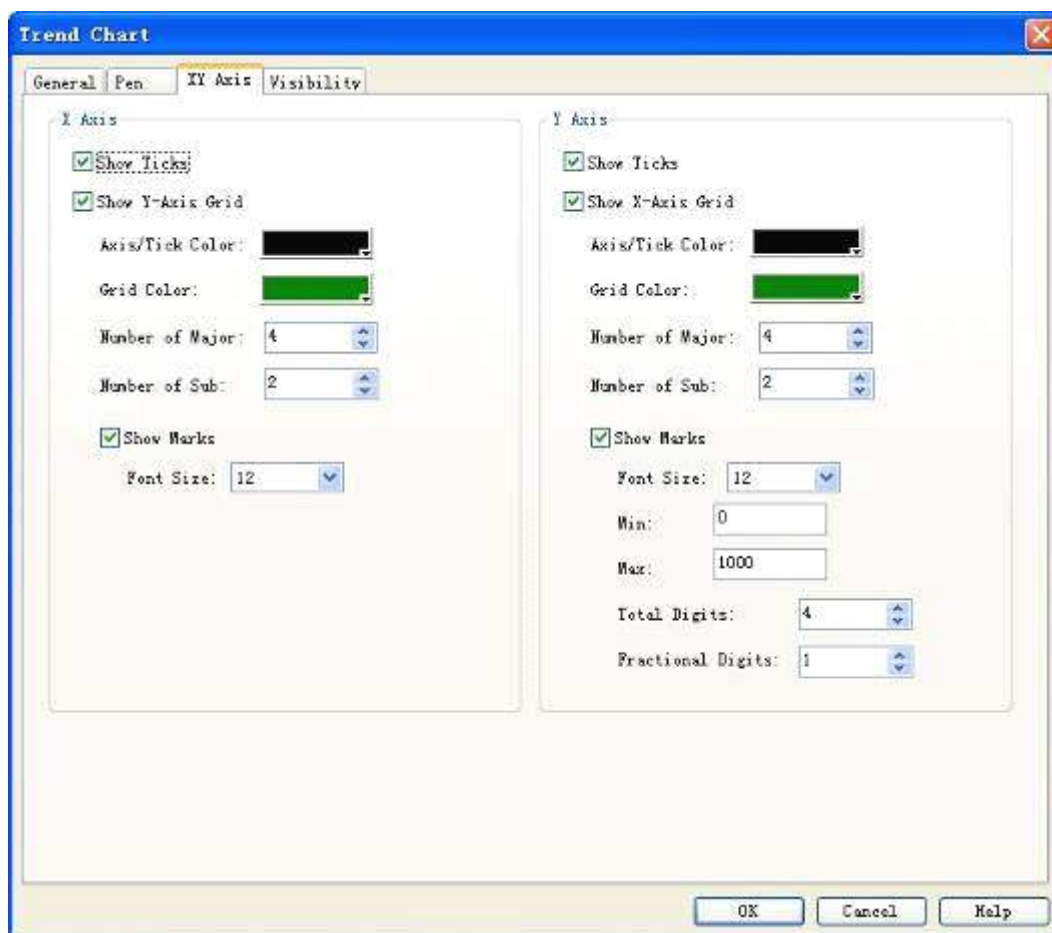

Figure 4-92: XY Axis tab of Trend Chart
3. XY Axis tab. See Figure 4-92.